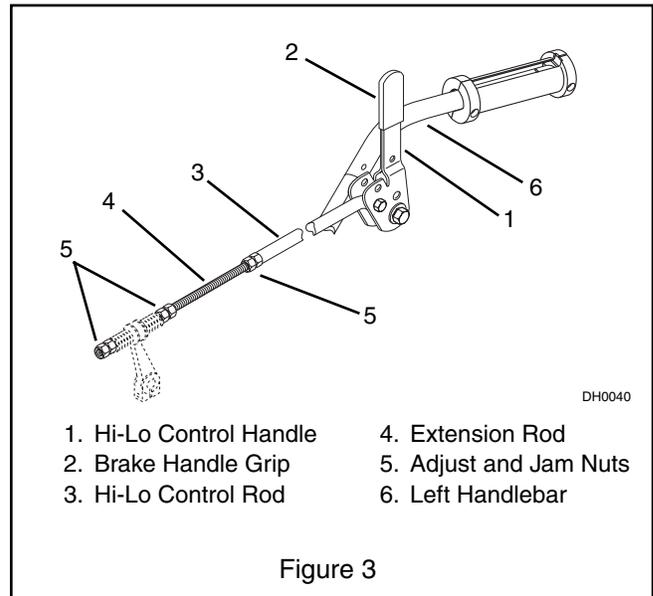

Figure 3
8. Mount the Hi-Lo gear control handle assembly and pivot to the left handlebar with a 1/2-13 x 3.50 bolt, locknut, and washer (Figure 3).